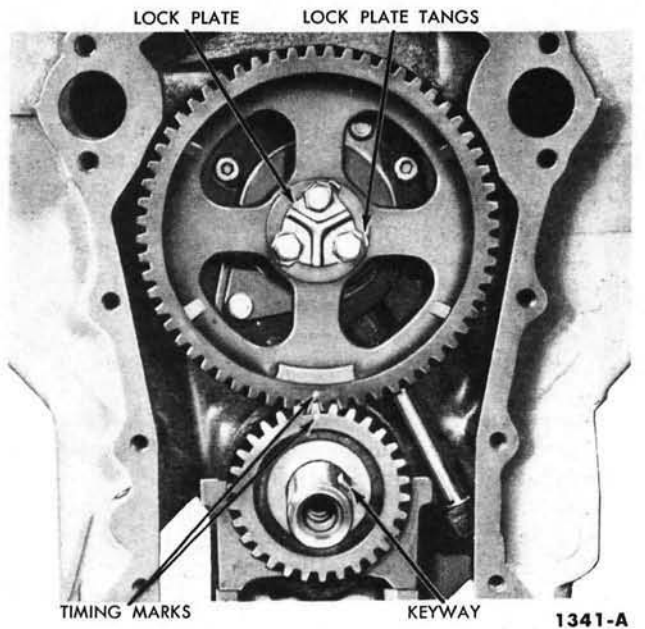
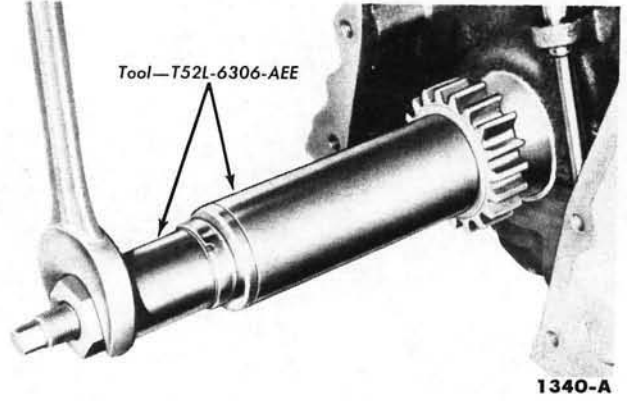

FIG. 39—Timing Gear Alignment—302 or 332 Engine
FIG. 44—Crankshaft Gear Installation—302 or 332 Engine
On a 302 and 332 engine, crank the engine until the timing marks on the gears are aligned as shown in Fig. 39. Remove the three capscrews and the lock plate securing the camshaft to the camshaft and remove
3. On a 302 or 332 engine, install the crankshaft gear (Fig. 44) and the camshaft gear with the timing marks aligned (Fig. 39). Install a new lock plate and install the three capscrews. Tighten the capscrews to 15-18 foot-pounds torque. Bend the tangs on the lock plate over the retaining screws. Install the crankshaft front oil slinger.